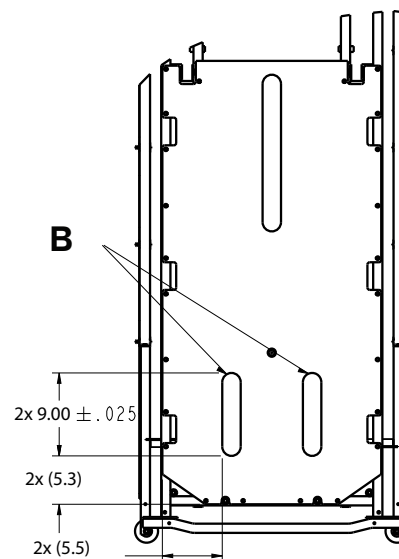

Figure 2 – Apply Velcro® to the foot end
9. Repeat steps 1-8 to replace the **Velcro®** (B) at the foot end (Figure 2).